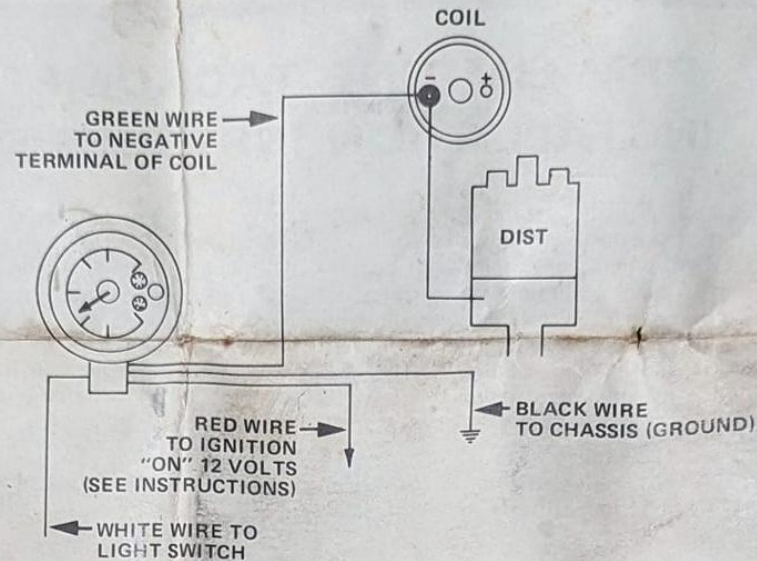

FIGURE 3
4. The "GREEN" wire is the ignition sensing lead. This wire is connected to the negative (-) terminal on the coil. On electronic ignitions the "GREEN" wire is connected to the negative (-) terminal on the coil or to the Tachometer hook up. (See figure 3.)
5. The "RED" wire is how the Tachometer receives its power. This wire should be connected to a point in the electrical system that is switched "ON" by the ignition switch. This is easily done at the fuse box. The wires that go to the radio or instruments are the best. (See figure 3.)
6. The "WHITE" wire is connected to the instrument lamp terminal of the light switch. (See figure 3.)
7. The "BLACK" wire is ground. Connect this wire to a good ground point under the dashboard. (See figure 3.)